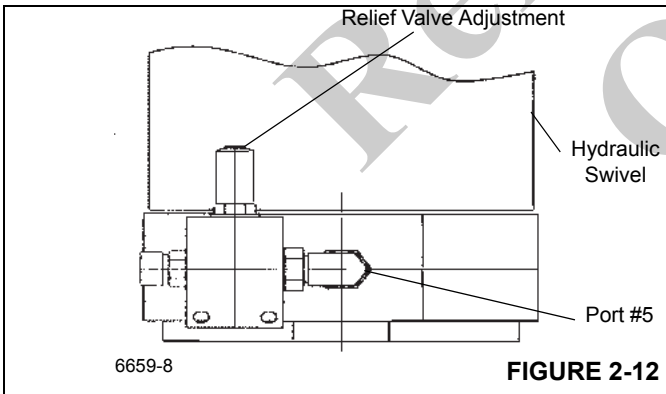

FIGURE 2-12
2. Run the engine at full RPM and steer full right or full left and hold. Check the pressure and adjust the relief valve Figure 2-12 to 2500 psi ±50 (17.2 MPa ±0.4).